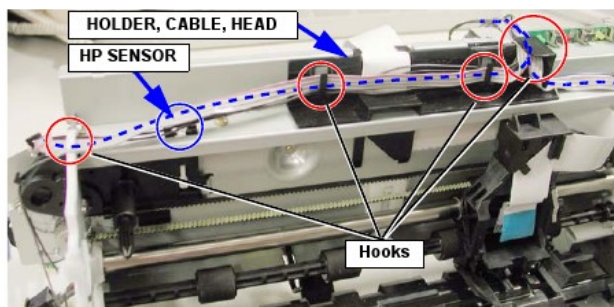

Figure 4-73. Release the harness
7. Release the harness from the hooks of the HOLDER, CABLE, HEAD and the FRAME ASSY, LEFT. (See Figure 4-73. "Release the harness".)
8. Disconnect the connector (White) from the HP SENSOR. (See Figure 4-73. "Release the harness".)